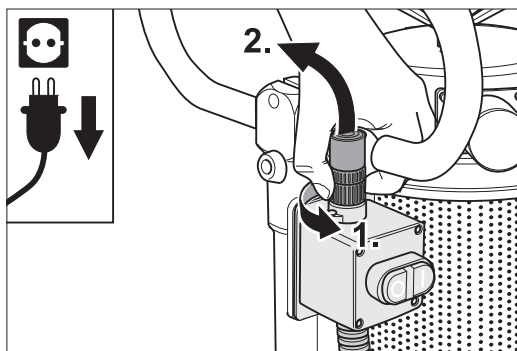

Fig. 18 Loosen the ring nut and remove the plug from the switch.
- 3 Loosen the cable plug of the sensor on the on/off switch by turning the ring nut; pull out plug (Fig. 18).